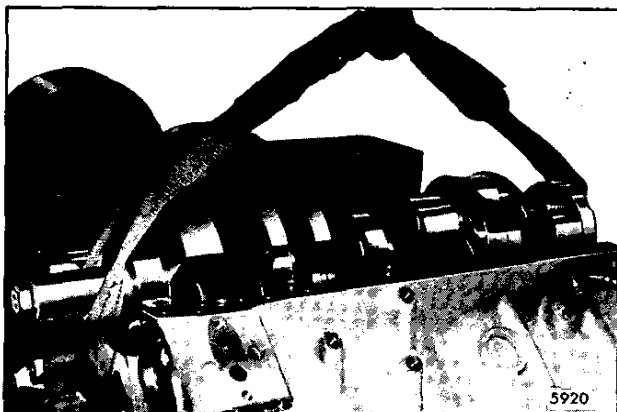

Fig. 2 - Removing Crankshaft
17. Remove the crankshaft, as shown in Fig. 2.